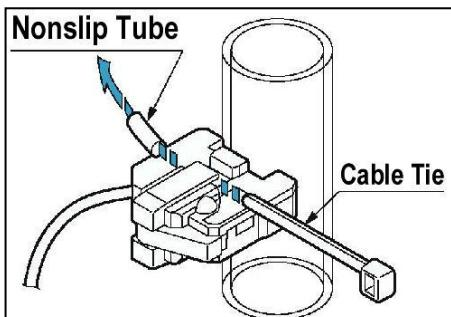

Fig.4-9-2-1 Installation of level sensor
Do not deform even a little the level sight tube. Since the level sensor has a fastening mechanism, the cable tie can be fastened softly enough to keep the level sight tube from deforming. (Refer to Fig. 4-9-2-3.)
- (5) There are an alignment hole and an identification label for each level sensor on the wall of the bulk reservoir. Adjust to position the level sensor at a proper height, and secure it in the specified position (refer to Fig. 4-9-2-2).